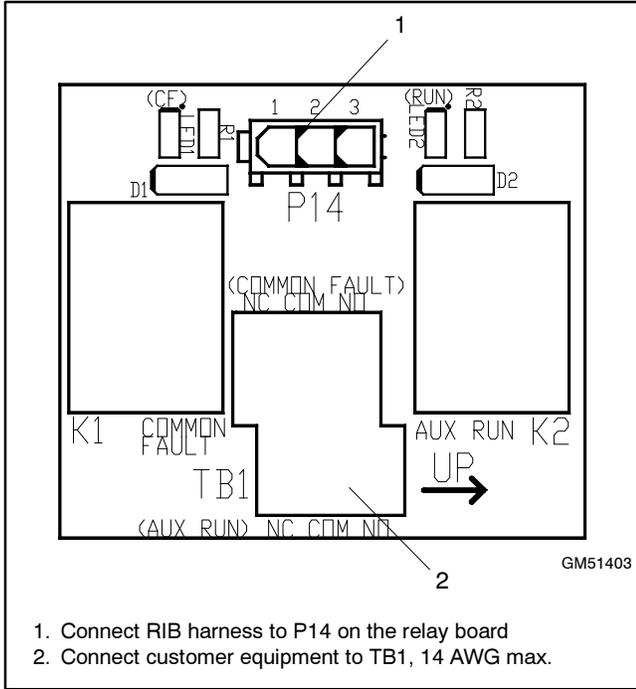

Figure 6 Relay Board GM51403
11. Connect three-pin connector P3 of the relay board harness to P14 on relay board GM51403. See Figure 6 and Figure 9.
12. Connect customer equipment to TB1 on relay board GM51403, following the terminal markings on the board. Use size 14 AWG maximum wire for connections to TB1. See Figure 6, Figure 7 and Figure 8.